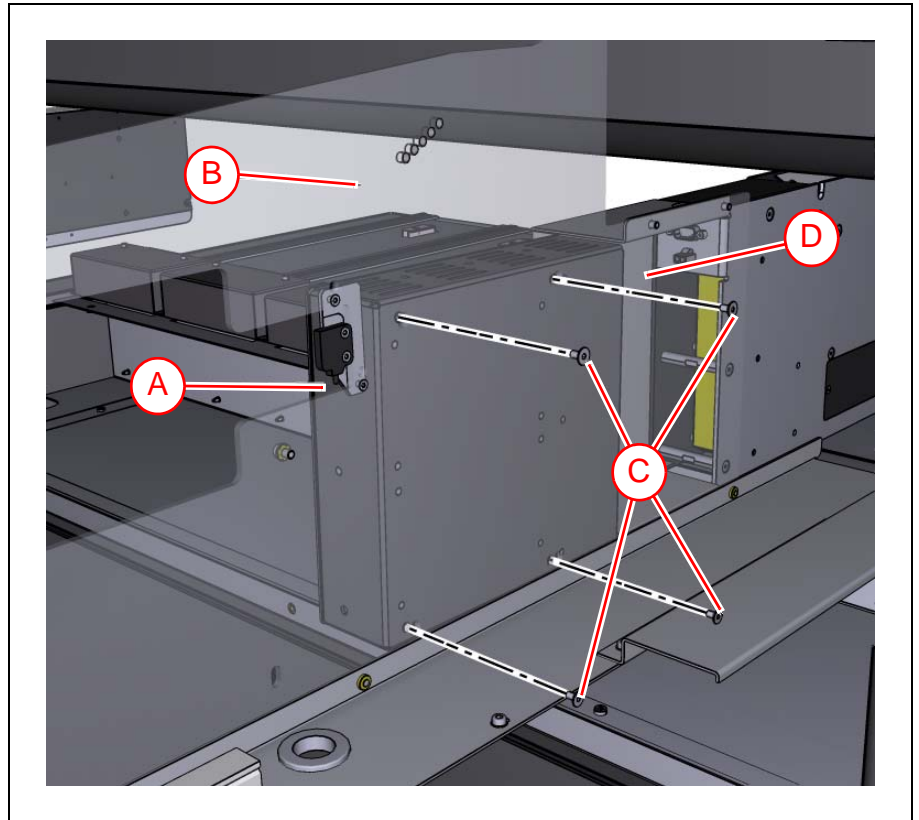

Figure 9-18. Attaching the Power Supply Unit.
1. Remove the four screws ('C' in Figure 9-18) from the Power Supply Unit casing ('A').
6. Gather all cables in the compartment between the Power Supply Unit and the Linescan camera (see 'D' in Figure 9-18).